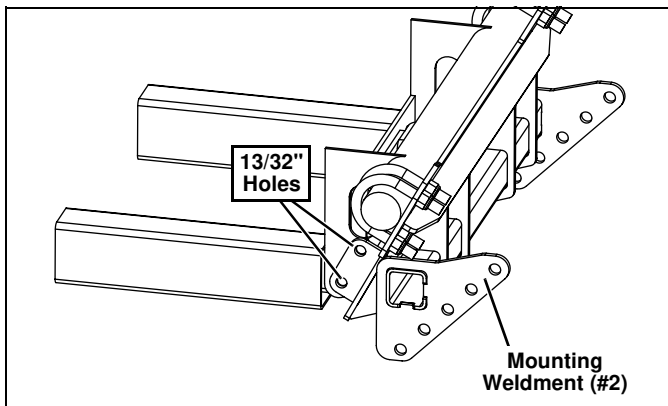

Figure 6
- Using the holes in both sides of the Mounting Weldment (#2) as a template, center punch and drill 13/32" holes into the vehicle's frame gusset. (See Figure 6.)